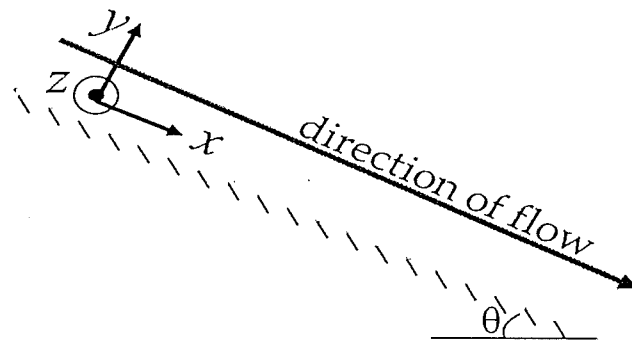

Figure 3 - Incompressible flow of a Newtonian fluid down an inclined plane
- [b] Show that, for steady, and fully developed laminar flow down the slope (Figure 3), the Navier-Stokes equations reduces to